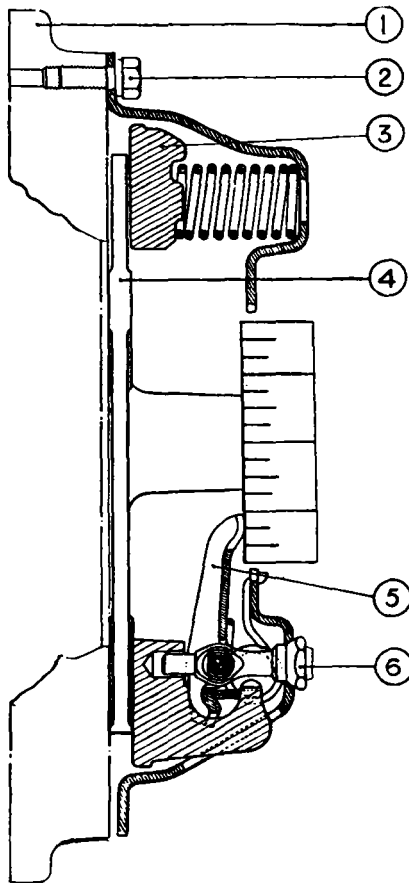

Fig. 14. Release lever adjustment.
(1) Using a Borg & Beck gauge plate (Fig. 14)
- (a) Mount the clutch on the actual or a spare flywheel (1, Fig. 14) or alternatively clamp it down to a flat surface, with the gauge plate (4) occupying the position normally taken by the driven plate. The ground lands of the gauge plate should each be located under a release lever (5).
- (b) Adjust the levers by turning the eyebolt nuts (6) until the levers are just in contact with a short straight edge resting upon the boss of the gauge plate.